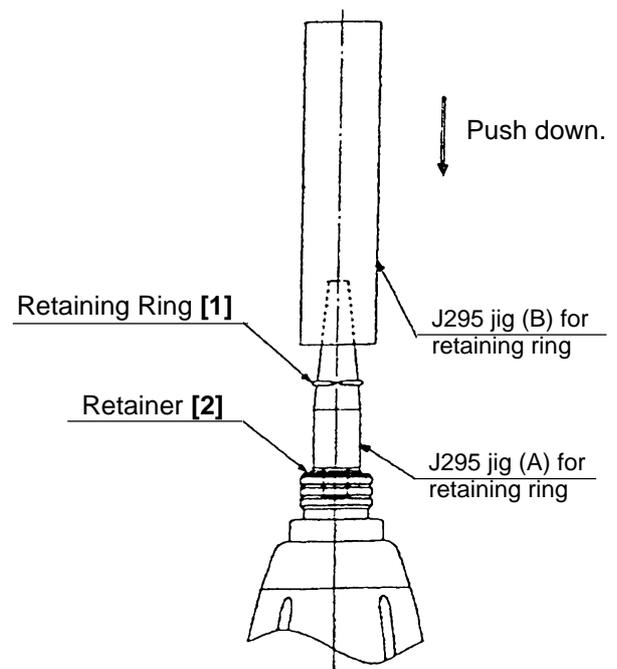

Fig. 15
(6) Mounting Guide Sleeve [4]
Insert the two Steel Balls D3.97 [9] into the hole of Anvil (C) [10]. Mount the Guide Sleeve [4], Guide Spring [3] and Retainer [2] in sequence. Mount the Retaining Ring [1] into the groove of anvil using J295 jigs (A) and (B) for retaining ring as illustrated in Fig. 15.